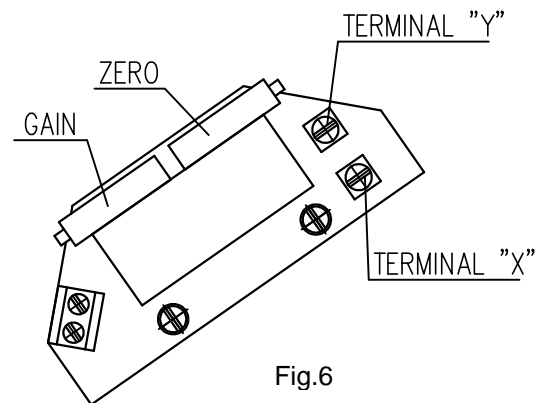

Fig.6
1.1.1. EPV – the 2-wire version (Fig. 6)
- Adjust the resistive transmitter according to the previous chapter. The resistance is to be metered on the terminals X-Y (Fig. 6). The used transmitter resistance is 100 Ω.
- Turn the adjusting trimmer ZERO (Fig. 6) to adjust the output current signal rate measured on the terminals 81-82 to 4mA.
- Turn the adjusting trimmer GAIN (Fig. 6) to adjust the output current signal rate measured on the terminals 81-82 to 20mA.
- Adjust the resistive transmitter according to the previous chapter. The resistance is to be metered on the terminals X-Y (Fig. 6).